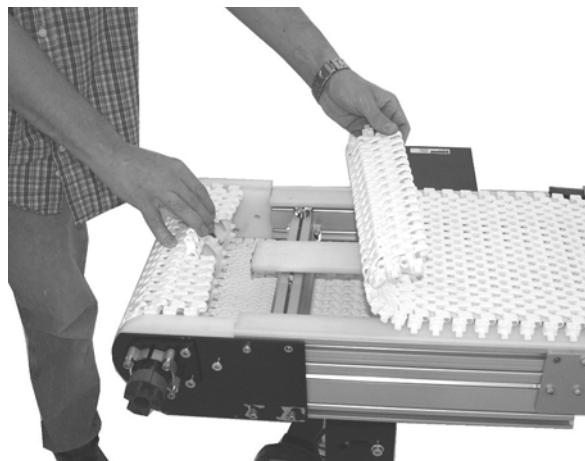

Figure 10
5. Bring the ends of the belt together (**Figure 10**).